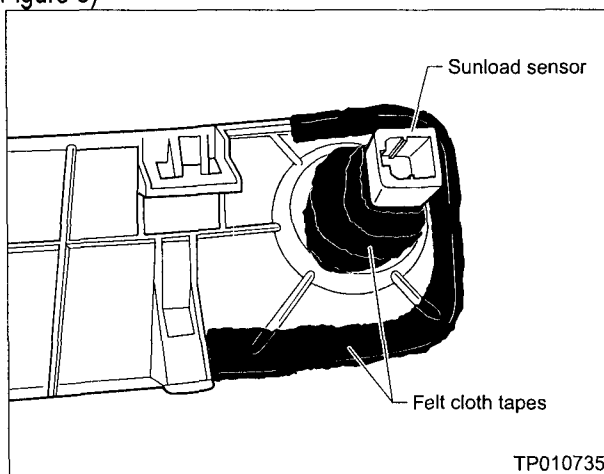

Figure 3-Bottom view
5. Remove the sun-load sensor from the defroster vent and apply a felt cloth tape, P/N 68239-13E00 around the sun-load sensor (see Figure 3)
6. Apply felt cloth tape to the right side bottom edge of the defroster vent near the sun-load sensor to prevent rattle noise (see Figure 3 above).